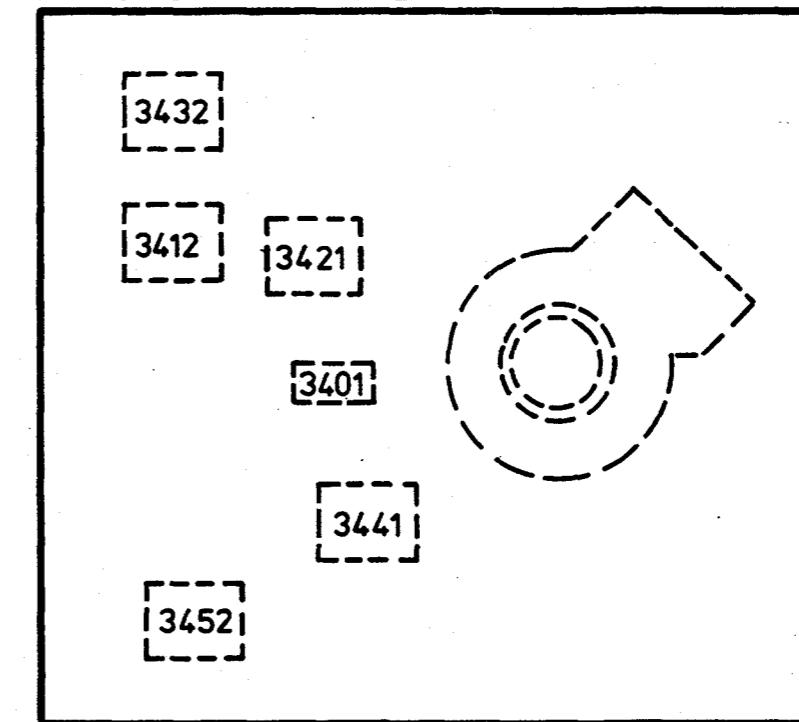

Fig.6
C. ADJUSTMENTS TO THE CRT BOARD (Fig. 6)